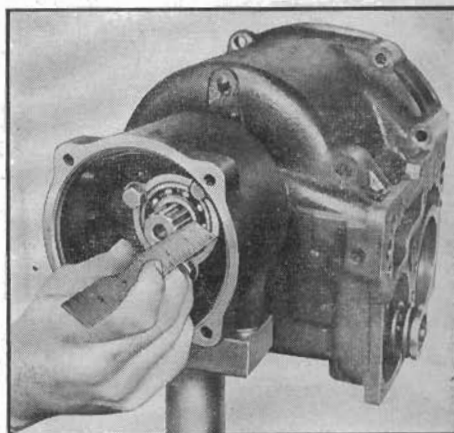

Fig. 62 Checking seating of output shaft. 1950-54
5. Rotate rear pump drive gear lug to top of pump, then install planet carrier in drum, aligning slot on carrier shaft with lug of pump drive gear. Check amount end of shaft protrudes out of bearing, Fig. 62. This should be a minimum of $\frac{3}{8}$ " and indicates proper seating of pump drive gear lug in carrier shaft slot.
7. Rotate rear pump drive gear lug to top of pump. Then install planet carrier assembly in drum, aligning slot on carrier shaft with lug of pump drive gear. On 1953-54, end of shaft should protrude out of bearing $\frac{7}{8}$ ", Fig. 62, and indicates proper seating of pump gear drive lug in carrier shaft slot.